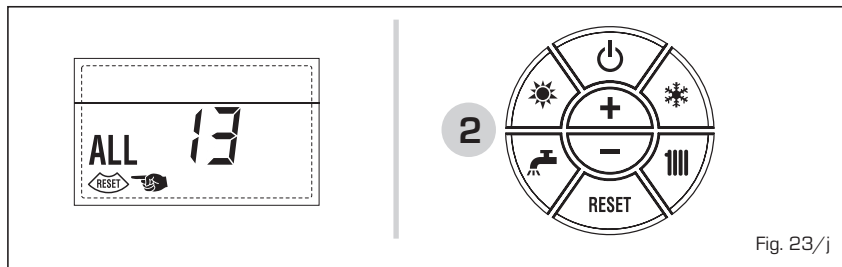

Fig. 23/j
- **EXHAUST TEMPERATURE SENSOR ERROR "ALL 14"(fig. 23/k)**